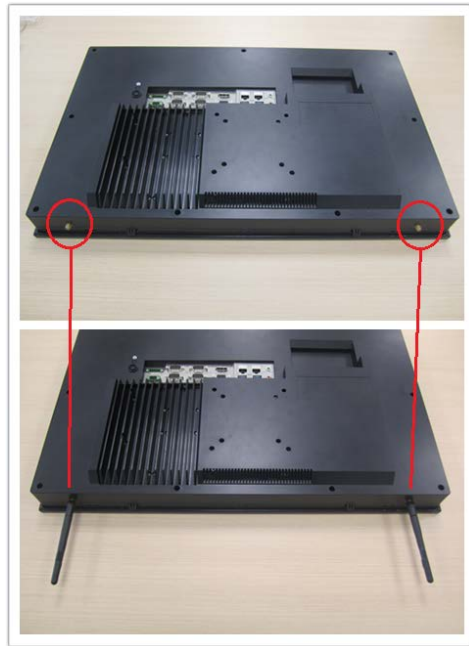

Figure 2.25
4. Replace the rear cover and install the antenna of the wireless LAN card module (Figure 2.25).